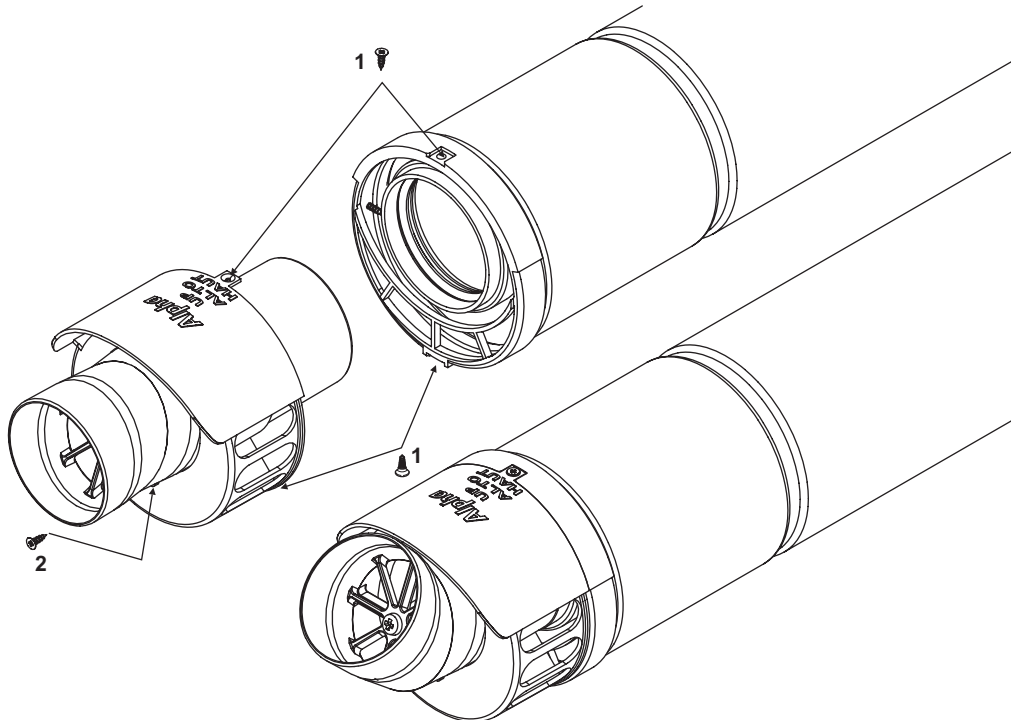

Fig. 4.13
- i. Remove the screws (1 in Fig. 4.13) securing the terminal and remove the terminal by pulling it from the flue assembly. Remove the screw (2 in Fig. 4.13) securing the terminal end section and remove the end section from the terminal.